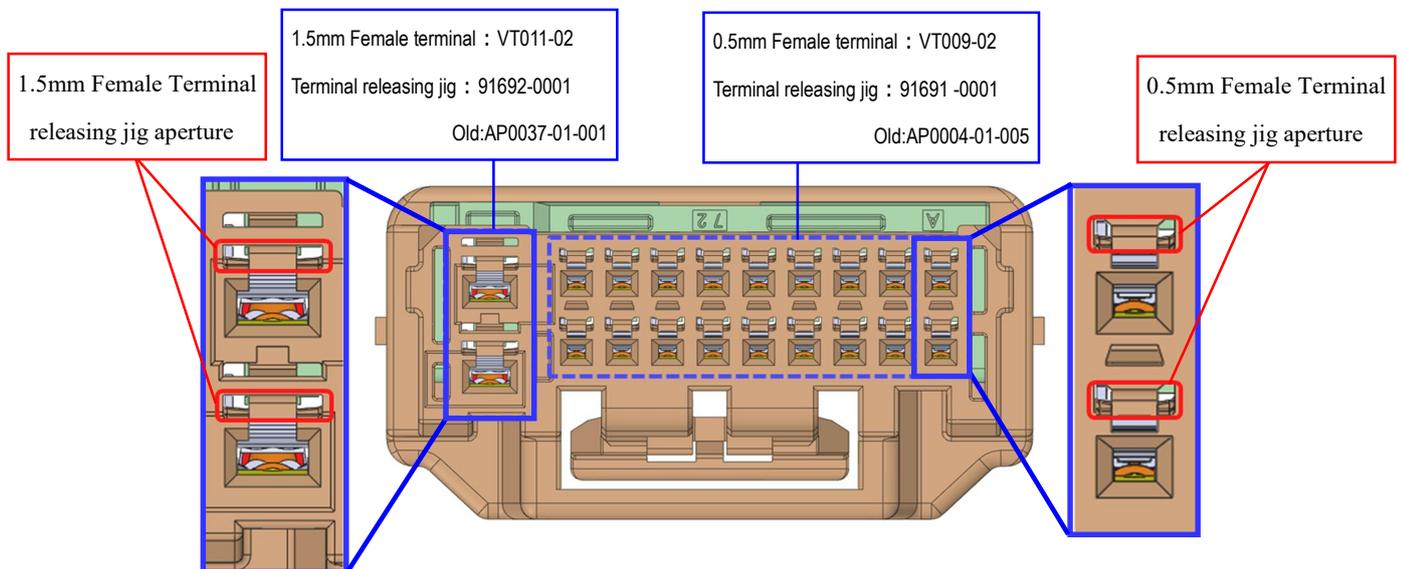

Fig 32. Releasing apertures location
- ⑥ Care must be taken not to damage edge of the jig (e.g. from dropping, etc.)
- ⑦ Use appropriate jig to release terminal from the female housing. (see Fig.32)